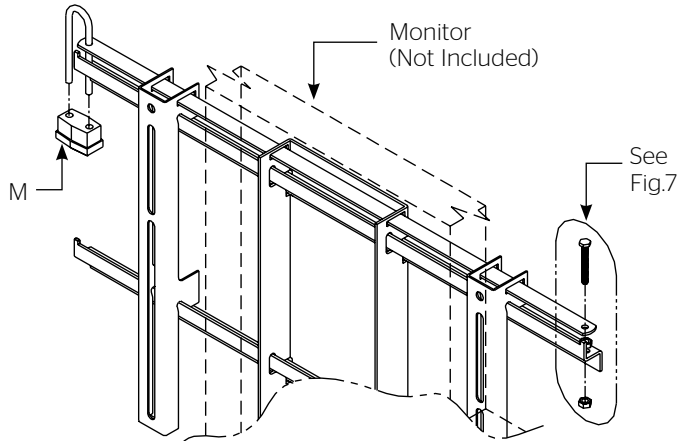

Figure 6
11. Slide the Security Bar through the slots in the Hanging Brackets, bolt one end to the Zee-Bar then secure the opposite end with the pad lock. See Figure 6 & 7.